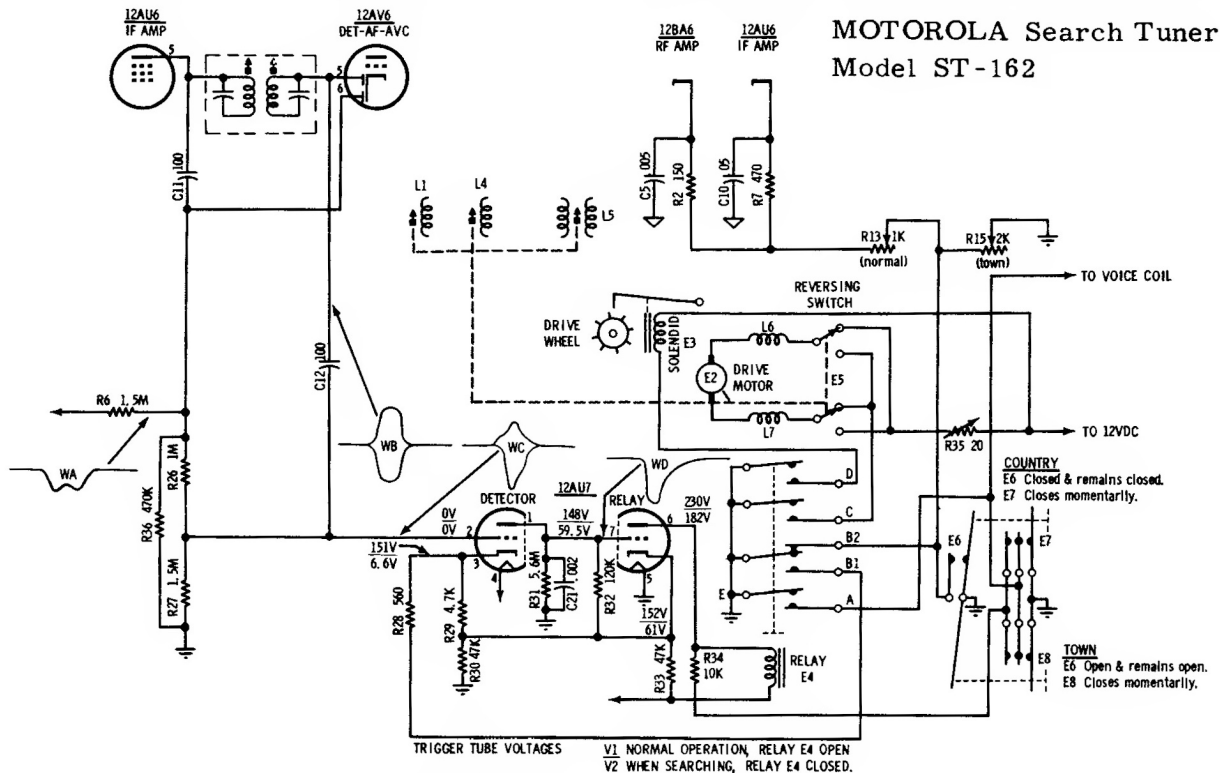
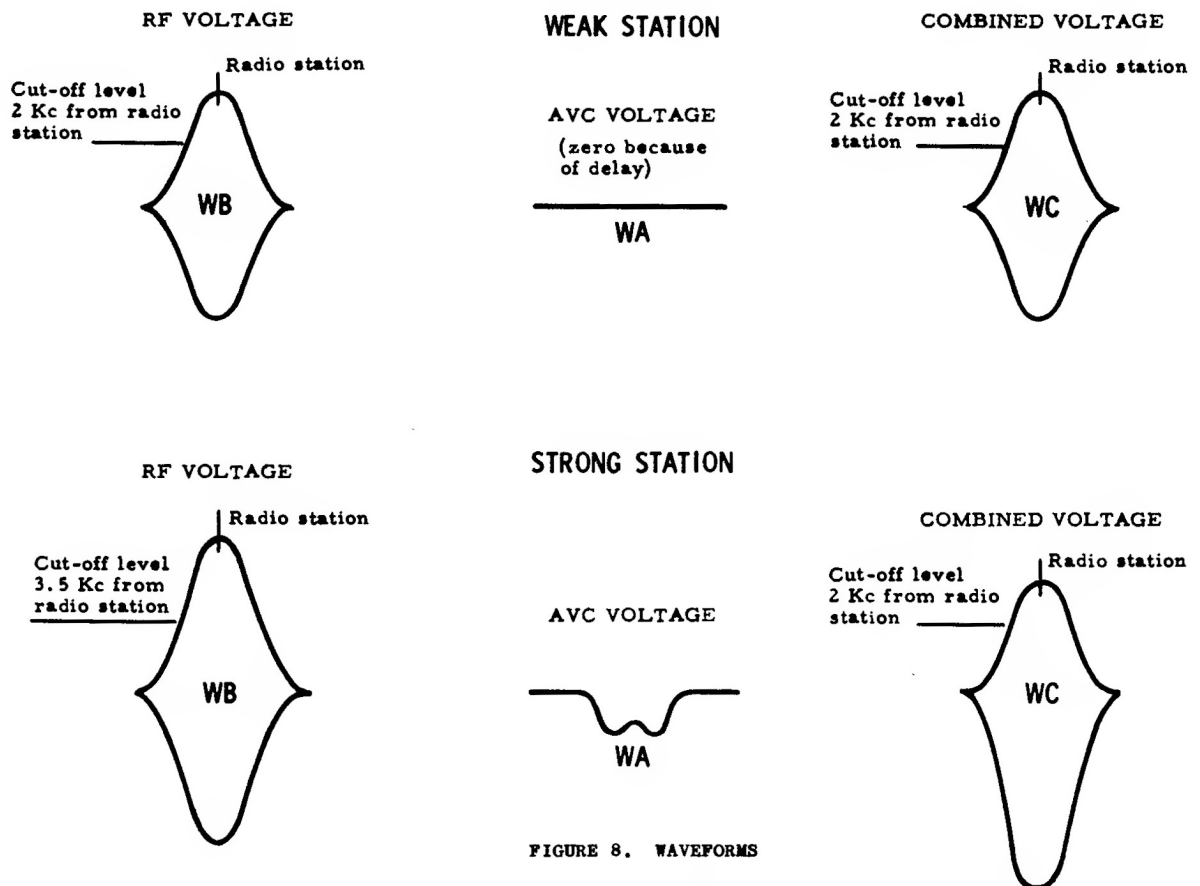

FIGURE 7. FUNCTIONAL SCHEMATIC
FIGURE 8. WAVEFORMS
2. With E7 or E8 momentarily closed the audio is muted and R34 is grounded (see Figure 7), which completes the relay (E4) circuit to ground. With the circuit complete, relay E4 becomes energized, grounding relay contacts A, B1, C and D, and ungrounding contact B2.
9. As the tuner approaches a station, a combined signal (WC Figure 7) is developed at the grid of the detector section of the trigger tube, by the addition of the AVC (WA Figure 7) voltage and the IF (WB Figure 7) voltage. As the signal becomes more positive, the detector draws more current through R32. The plate side of R32 develops a negative pulse (WD Figure 7) which is sufficient to cut off the relay tube. With the relay tube cut off, the relay E4 is de-energized and the relay contacts are returned to their original position. With the contacts in their original position, the detector tube is also cut off because resistor R28 is no longer across the biasing resistors (R29, R30 & R33). This also de-energizes the solenoid of the control clutch, disengaging the carrier gear allowing the motor to coast to a stop. The sensitivity of the radio is returned to the normal level.
The detector circuit functions as a cut-off device for the relay tube. The coast distance of the tuner, after the relay E4 is de-energized, is approximately 2.5 kilocycles. Therefore, the relay tube must be cut off 2.5 kilocycles before the tuner reaches the frequency of a radio station. The detector tube can actually control the relay tube on the IF signal alone, but because of the difference of power between radio stations, the AVC voltage must control the cut-off point. The AVC voltage controls this by re-shaping the waveform (WC Figure 7) where necessary, so that the RF cut-off level is 2.5 kilocycles ahead of the frequency of the radio station. Figure 8 shows the addition of the AVC voltage to a weak station and to a strong station. It can be seen that in the combined RF signal, the RF cut-off level is 2.5 kilocycles away from the frequency of the radio station. This allows the tuner to cut off and coast 2.5 kilocycles to the radio station.